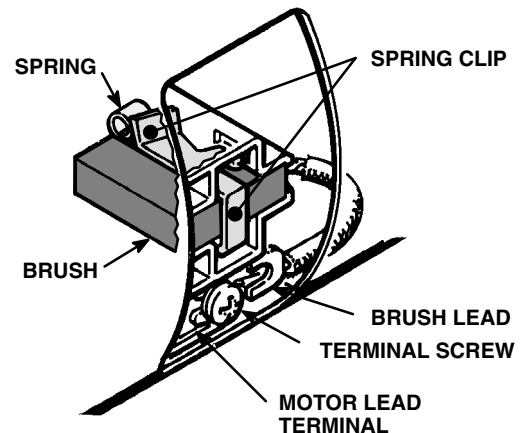

Fig 25-3
**NOTE:** Replace the brushes when they have worn to less than 1/2 in. See STEP 1, Fig 25-3. Note that the brushes wear differently on each side of the motor, so check them both. Brush Repair Kit 220-853 is available.
3. Loosen the brush lead terminal screw. Pull the brush lead away, being careful to ensure the motor lead terminal remains in place. Remove and discard the brush and spring. See Fig 25-3.